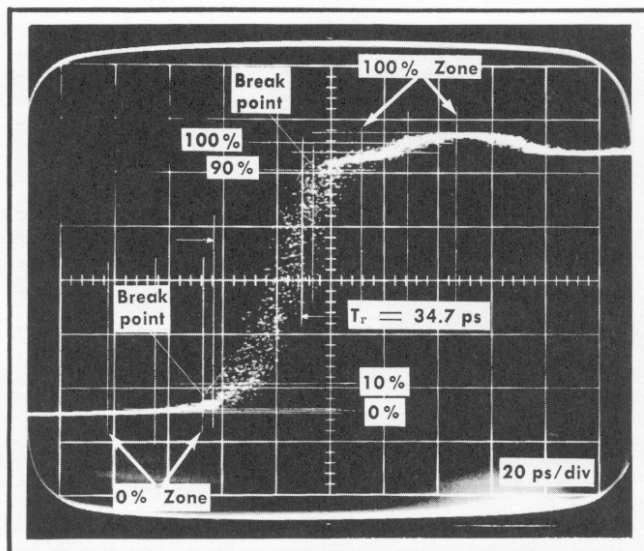

Fig. 5-8. Combination of Type S-4 and Type S-50 risetime measurement.
(1) Mark reference points at maximum rate of change, the break points shown in Fig. 5-8.
(2) Mark the centers of the 0% zone and 100% zone (the specified system risetime wide, 35 ps), 35 ps from the reference break points, shown in Fig. 5-8.
(3) Mark the average level of the 0% and 100% zones through the centers of the zones.
(4) Mark the 10% and 90% points in relation to the 0% and 100% average levels.
(5) Measure the risetime between the 10% and 90% points.